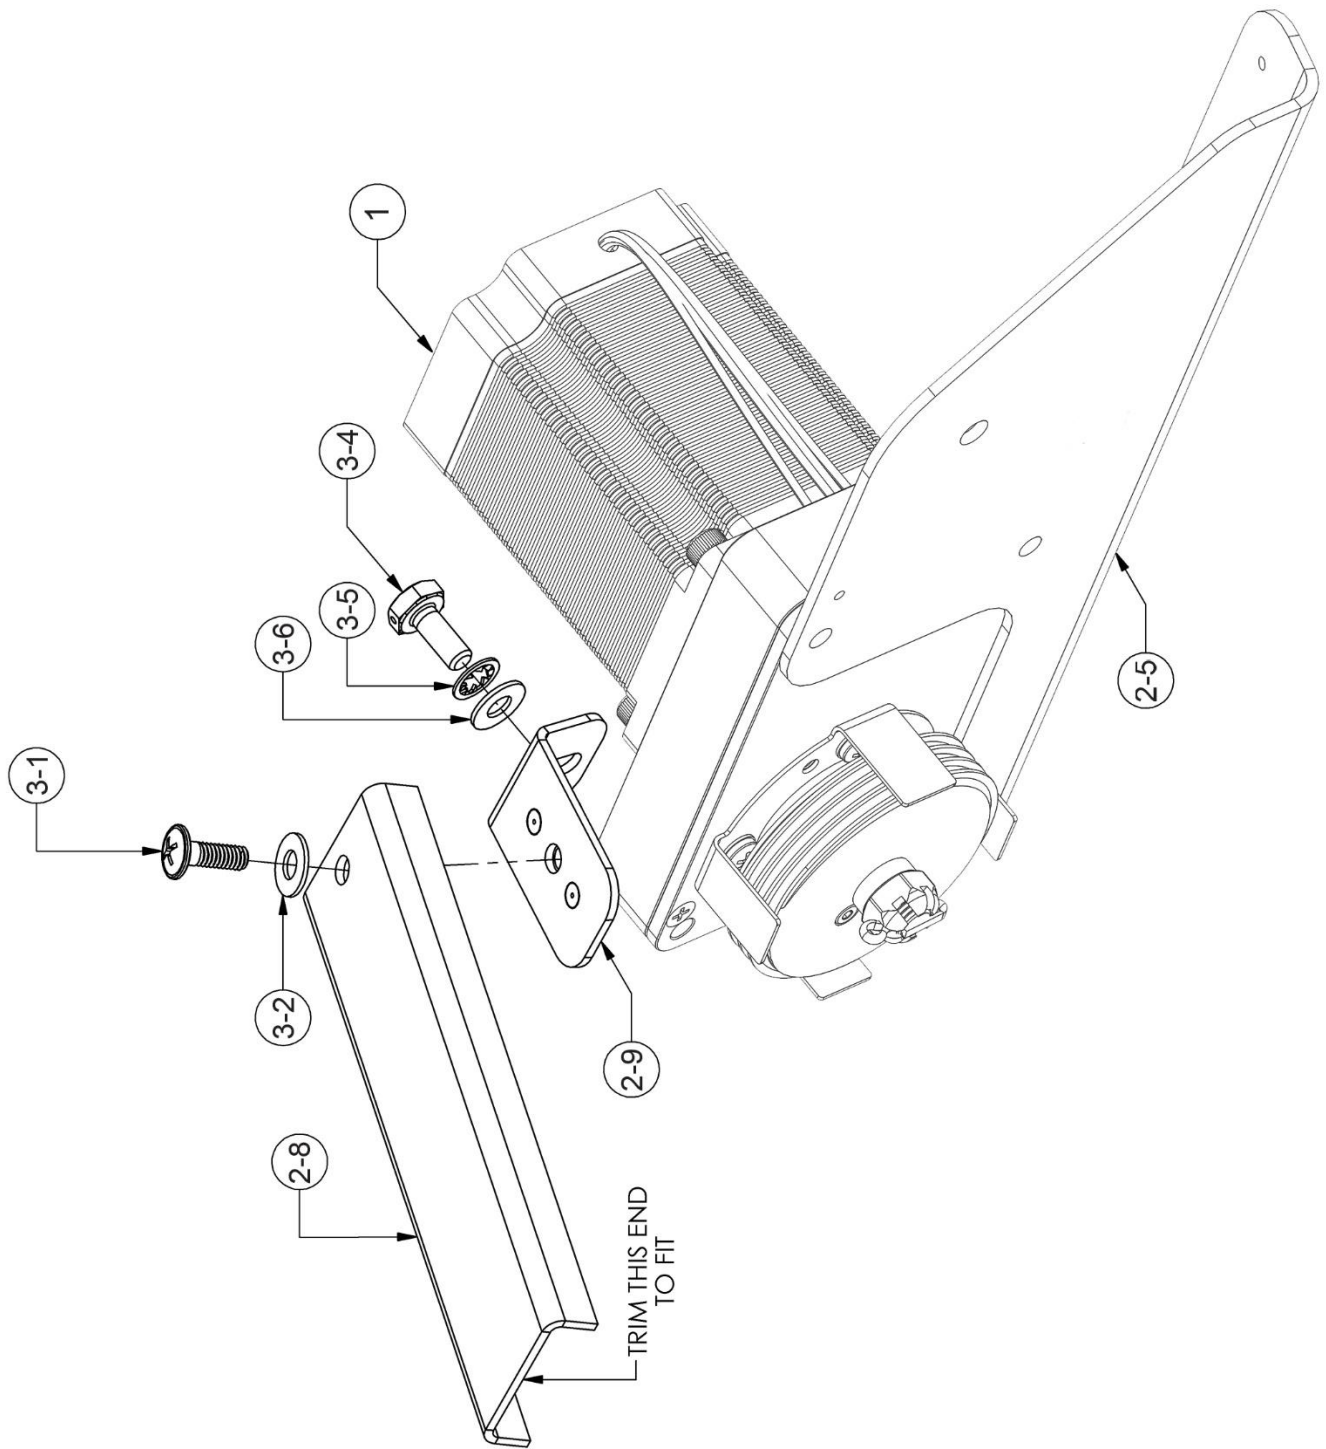

Figure 26: Pitch Servo Sway Brace Components
5. Remove and store fastener that secures long sway brace to short sway brace (see Figure 26).